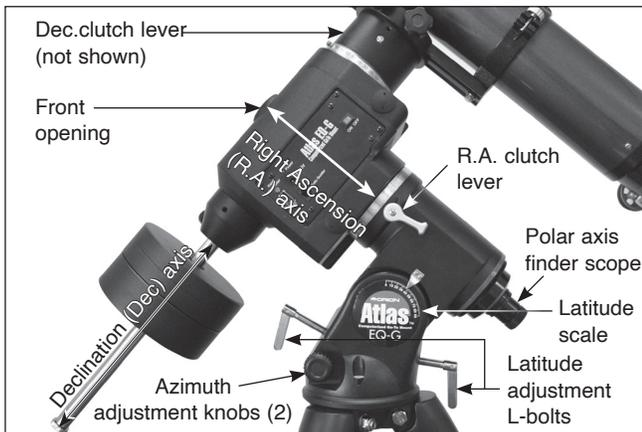

Figure 8. The R.A. and Dec axes of the Atlas EQ-G and related parts.
- Keeping one hand on the telescope optical tube, loosen the R.A. clutch lever (refer to Figure 8). Make sure the Dec. clutch lever is tightened, for now. The telescope should now be able to rotate freely about the R.A. axis. Rotate it until the counterweight shaft is parallel to the ground (i.e., horizontal).
2. There are two latitude adjustment L-bolts (see **Figure 8**); loosen one while tightening the other. By doing this you will adjust the latitude, or altitude angle, of the mount. Continue adjusting the mount until the pointer on the latitude scale is set at the latitude of your observing site. If you don't know your latitude, consult a geographical atlas or the Internet to find it. For example, if your latitude is 35° North, set the pointer to 35. The latitude setting should not have to be adjusted again unless you move to a different viewing location some distance away.
3. Loosen the Dec. lock lever and rotate the telescope's optical tube until it is parallel with the right ascension axis, as it is in **Figure 8**.